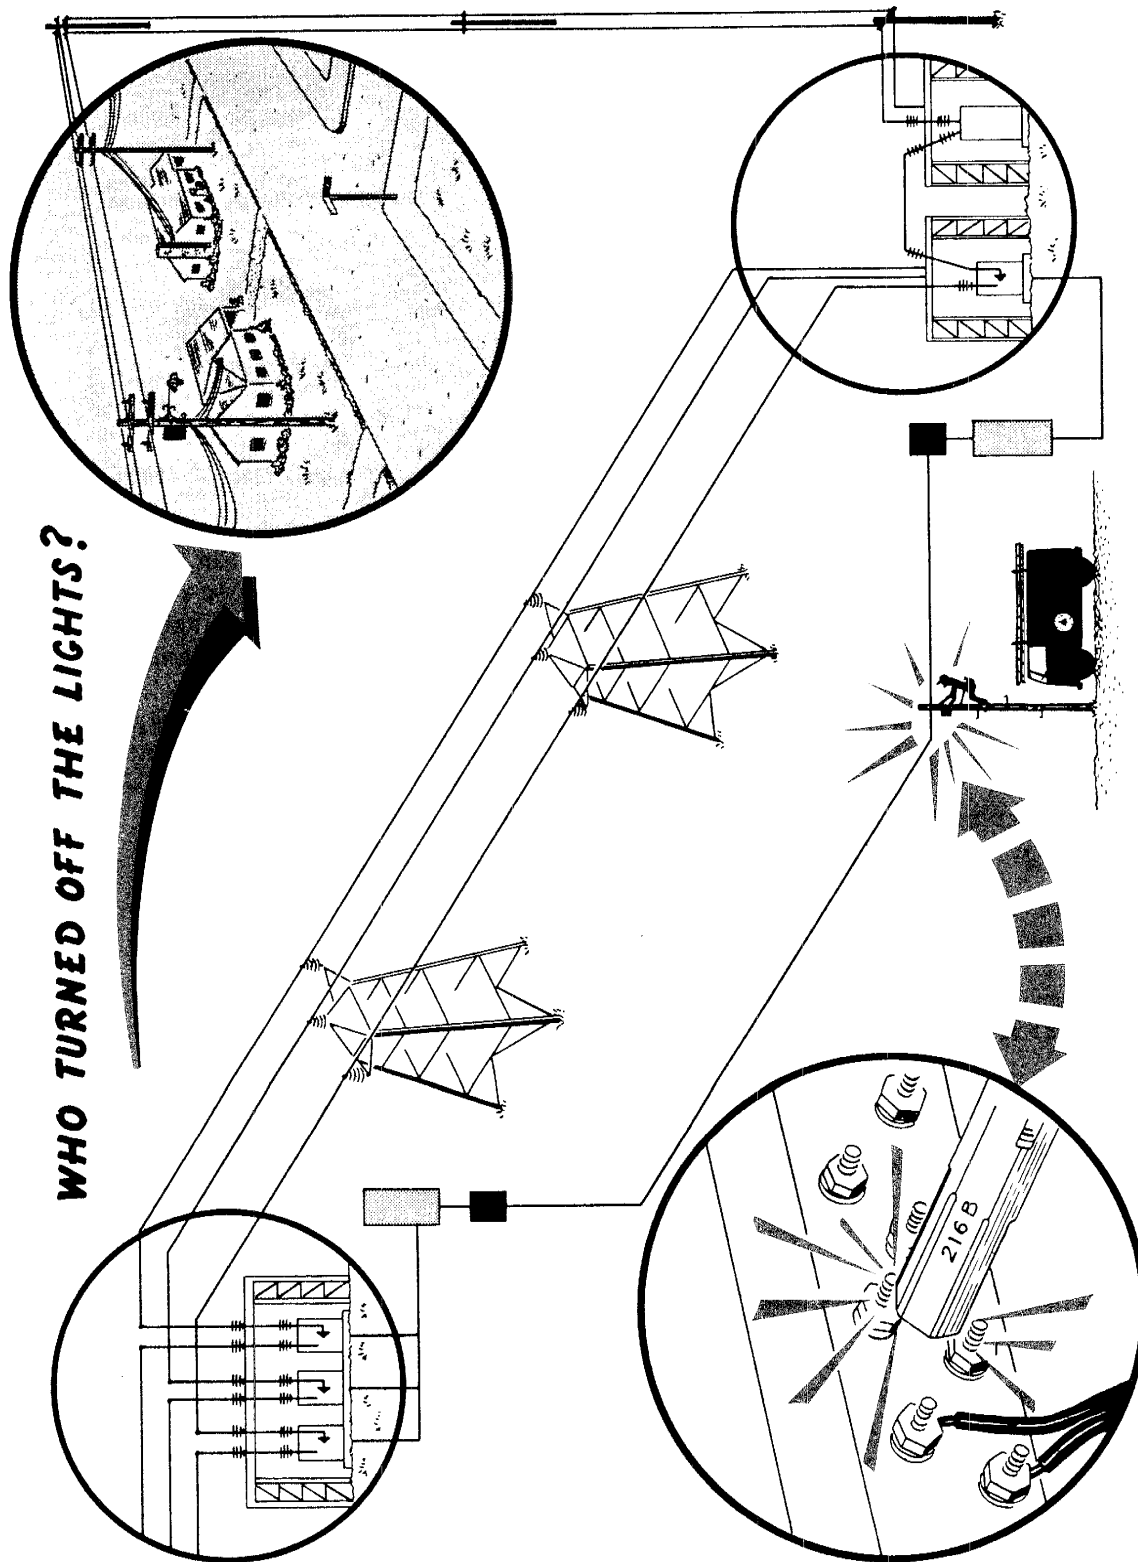

Fig. 2 — Who Turned Off the Lights
- Do not short terminals when trying to locate a pair (Fig. 2).